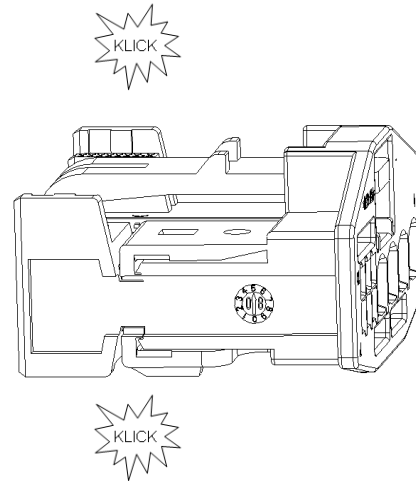

Abb. 5/ Fig 5
*After the checking of the correct contact retention the secondary lockings must be closed by rotating them like shown in Fig 5 into there endlocking position*